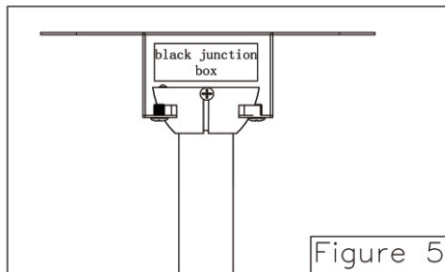

Figure 5
- Use bandage to extend into the wave filter mounting hole and the screw hole of the hanger bracket, and tighten bandage (for subsequent installation of the ceiling Canopy). (Figure 5)